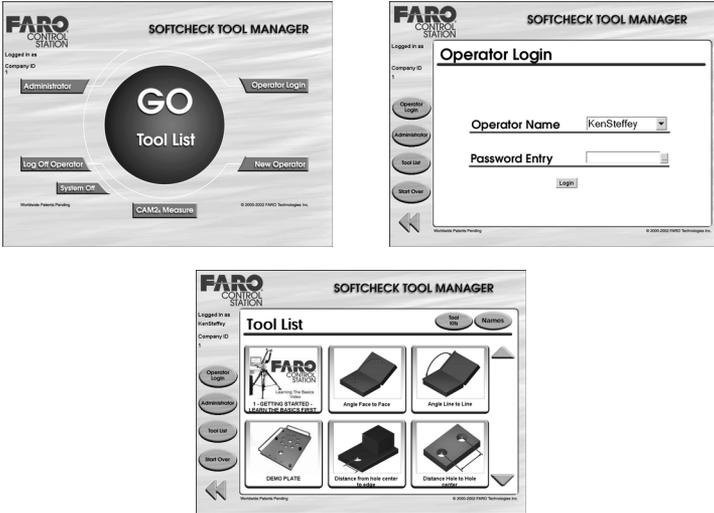

Figure 3-6 Starting SCTM - Opening Screen On and Login Required On
- The Opening screen opens when the Login Required button is ON and the Opening Screen button is ON. See Figure 3-6, “Starting SCTM - Opening Screen On and Login Required On.” From here, an operator must login to open tools only they can access and the Public Tool List (GO button).